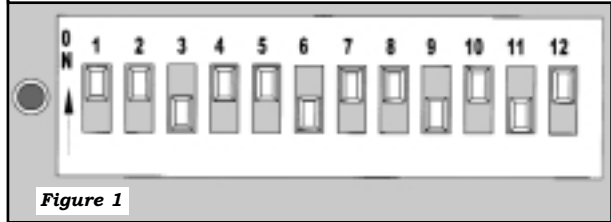

FIGURE 1 REPRESENTS THE TWELVE (12) PROGRAMMING SWITCHES FOR A VEHICLE CHARACTERIZED BY:
THE CRUISE MODULE MUST BE PROGRAMMED FOR THE VEHICLE ON WHICH IT IS INSTALLED. THE TWELVE (12) PROGRAMMING SWITCHES MUST BE SET ACCORDING TO THE CHART BELOW IN ORDER FOR THE GLOBALCRUISE TO OPERATE PROPERLY. **FIGURE 1**